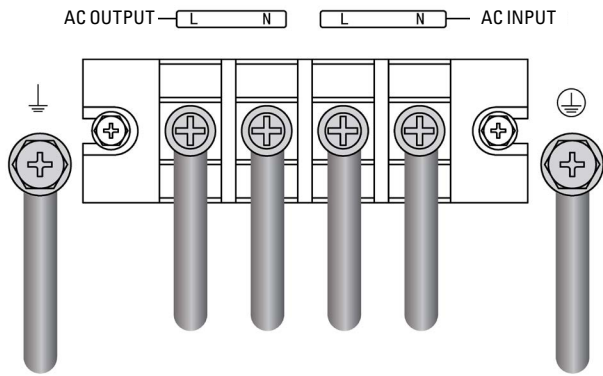

Fig. 22. SLC 6000/10000 TWIN RT3 LION I/O terminals.
It is important to respect the polarity indicated in Fig. 22, depending on the model, before connecting the power supply.
- Either by removing the female connector from the socket where it is inserted. This connector is connected to a cable as a bridge that closes the circuit (see Fig. 22-A).
- Or by pressing the external pushbutton on the equipment and provided by the user and installed between the connector terminals (see Fig. 22-B). The connection on the pushbutton must be in the normally closed contact (NC), so it will open the circuit when it is operated.